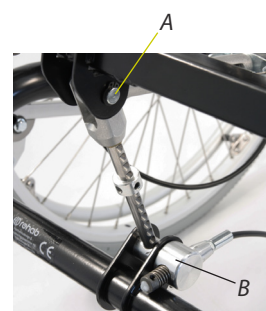

Fig 7
4. Move the seat plate backward and remove one of the retaining rings that holds the tilt rod and the gas spring (A, fig 7). Hold the gas spring and knock out the pin incrementally such that only the gas spring comes free. Set aside the gas spring. Take hold of the seat frame and knock the pin completely so that the tilt rod comes free.
If the tilt lock (B, fig 7) is to be changed (requires cable change):